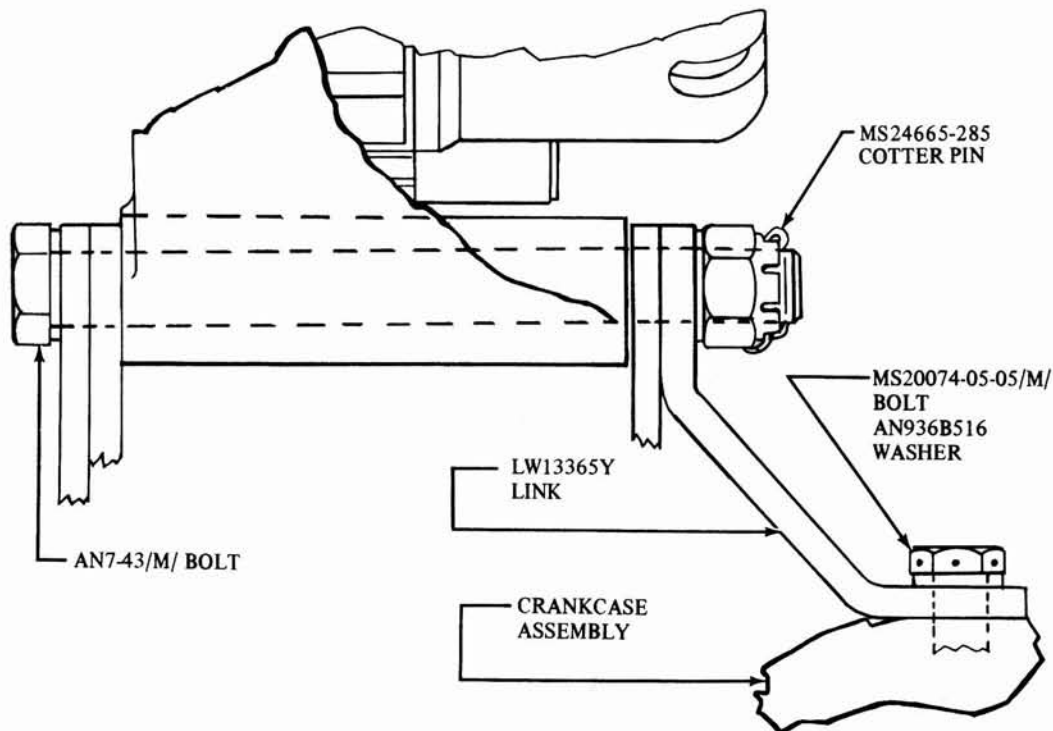

Figure 1. Installation of Link.
3. Attach the P/N LW13365Y link to the crankcase assembly using the MS20074-05-05/M/ bolt and AN936B516 washer as shown in figure 1.
4. Install the new AN7-43/M/ bolt with the existing nut and washer as shown in figure 1.
7. Install the MS24665-285 cotter pin through the nut and bolt as shown in figure 1.